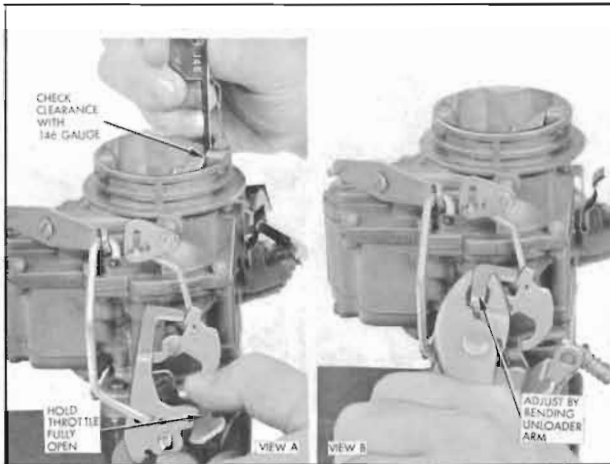

Figure 3-69—Choke Unloader Adjustment
If the engine becomes flooded for any reason, the choke valve can be partially opened by depressing the accelerator to the full extent of its travel. This causes an arm on the throttle lever to contact and rotate the choke unloader plate. This pulls down on a link and forces the choke valve partially open. See figure 3-69.
10. Hold choke closed with a light pressure. Fully open throttle so that unloader arm on throttle lever kicks choke partially open. Measure clearance between upper edge of choke valve and wall of air horn using .146" Gauge (No. 27 drill). If clearance is not as specified, correct by bending unloader arm on throttle lever. See figure 3-69.